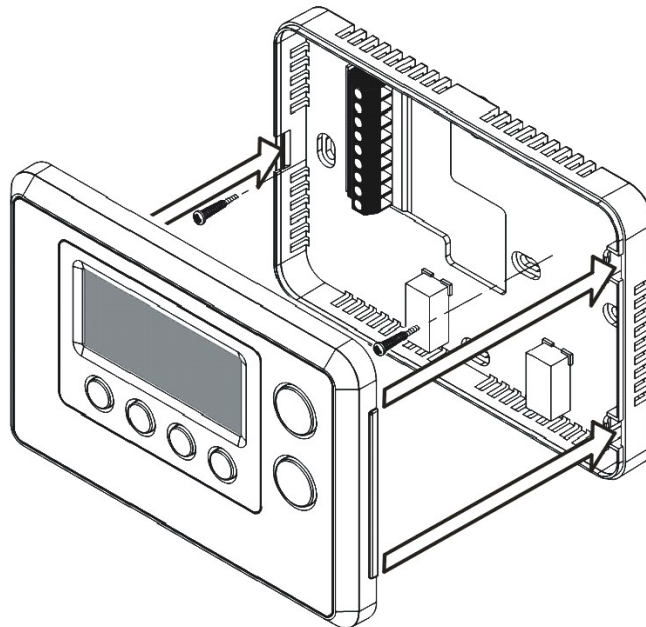

Figure 6. Install the top housing
7. Fasten the thermostat with 2 pieces of long screws through the 2 mounting holes (Figure 6)
8. Install the top housing by hooking the bottom (Figure 6)